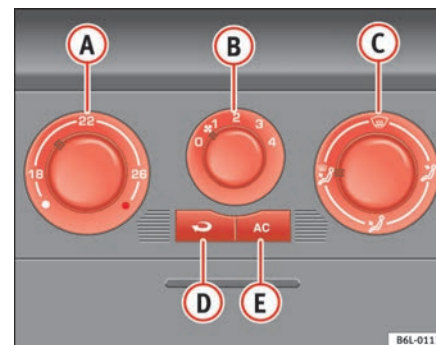

Fig. 90 On the instrument panel: air conditioning controls
- Using the controls ⇒ fig. 90 **(A)** and **(C)** and with the switch **(B)** you can set the temperature, air distribution and the blower speed.